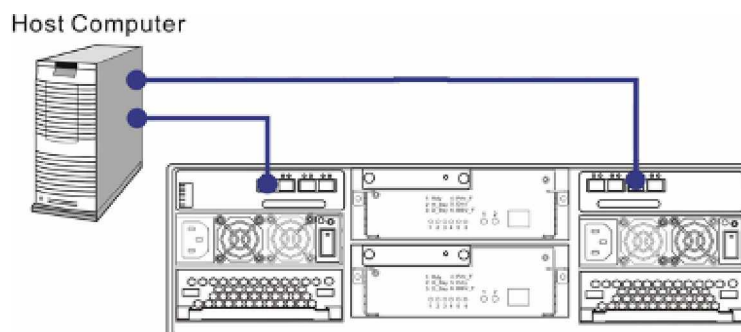

Figure 4-3: Direct Single Host Connection
As shown in **Figure 4-3**, one (1) FALCON III is directly connected to single host computer. Multiple logical drives or multiple partitions can be created and made available separately through different ID/LUN's on the host ports.